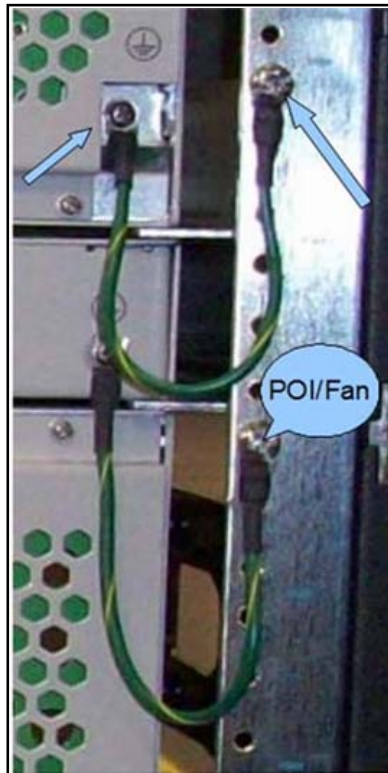

Figure 4-16. Grounded Host Unit (shown with optional POI Unit, also grounded)
3. Connect the cabinet mounted earth-bonding cable between the two lock and flat washers as shown in **Figure 4-16**. Ensure the grounding surface is clean and free of paint, insulating material or contaminants.